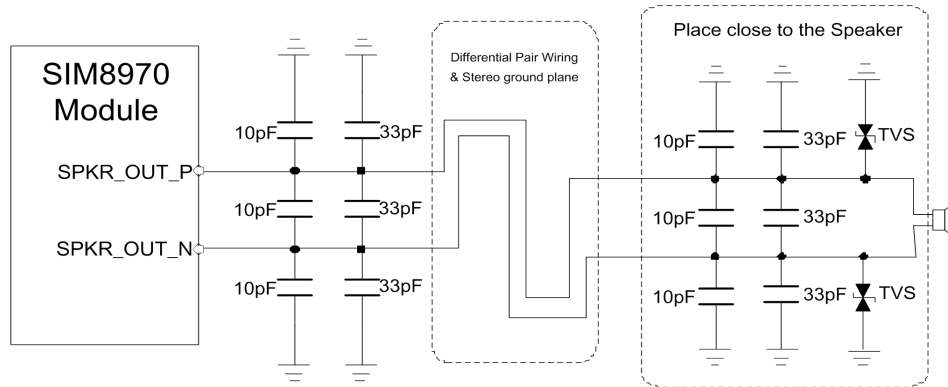

Figure 28: Speaker Reference Design
SIM8970x series module integrates a Class-D Type audio power amplifier (PA) internally. The PA integrates an internal SPKR_BOOST (Maximum Output Voltage 5.5V) circuit. The audio PA feature is listing in Table 20, and the reference design for the speaker interface is showing in the Figure 28.